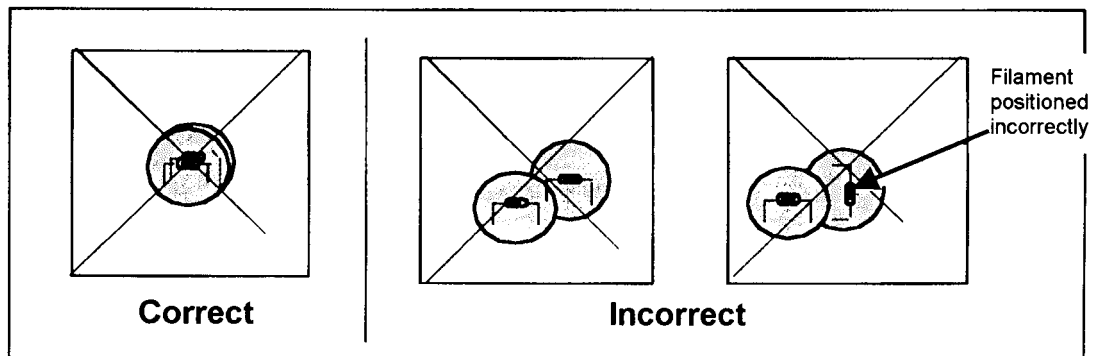

Figure 3-2 Range Light Adjustment
4. Press the red shutter button lightly to turn on the range lights. The range lights should be merged together and centered in the test target (Figure 3-2).
Note: If either range light filament is not horizontal (Figure 3-2), loosen the applicable range light clamp screw and then manually rotate the lamp until its filament is correctly positioned.